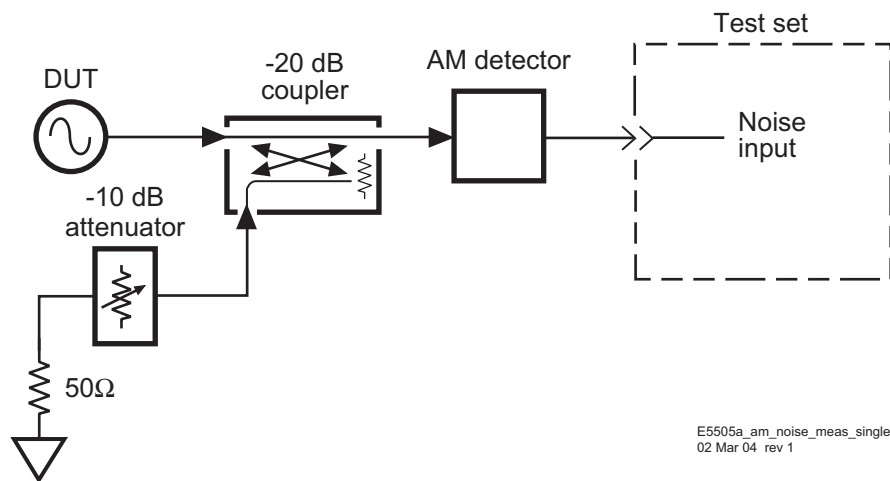

Figure 234 AM noise measurement setup using single-sided spur
- 1 Connect circuit as shown in Figure 234, and tighten all connections. If the N5500A Option 001 or N5507A is available, use one of the connection diagrams described in “AM noise measurement block diagrams” on page 295.